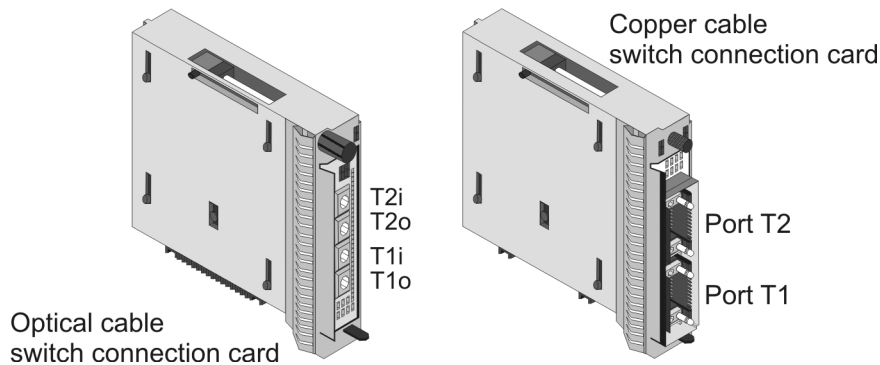

Figure 57. Switch Port Connection cards
There are three types of SPC cards (also refer to Figure 57 on page 317):
3. Figure 57 on page 317 shows four ports on the optical cable connector. Two of these ports are for data output (T1i and T2i) and two are for data input (T1o and T2o).